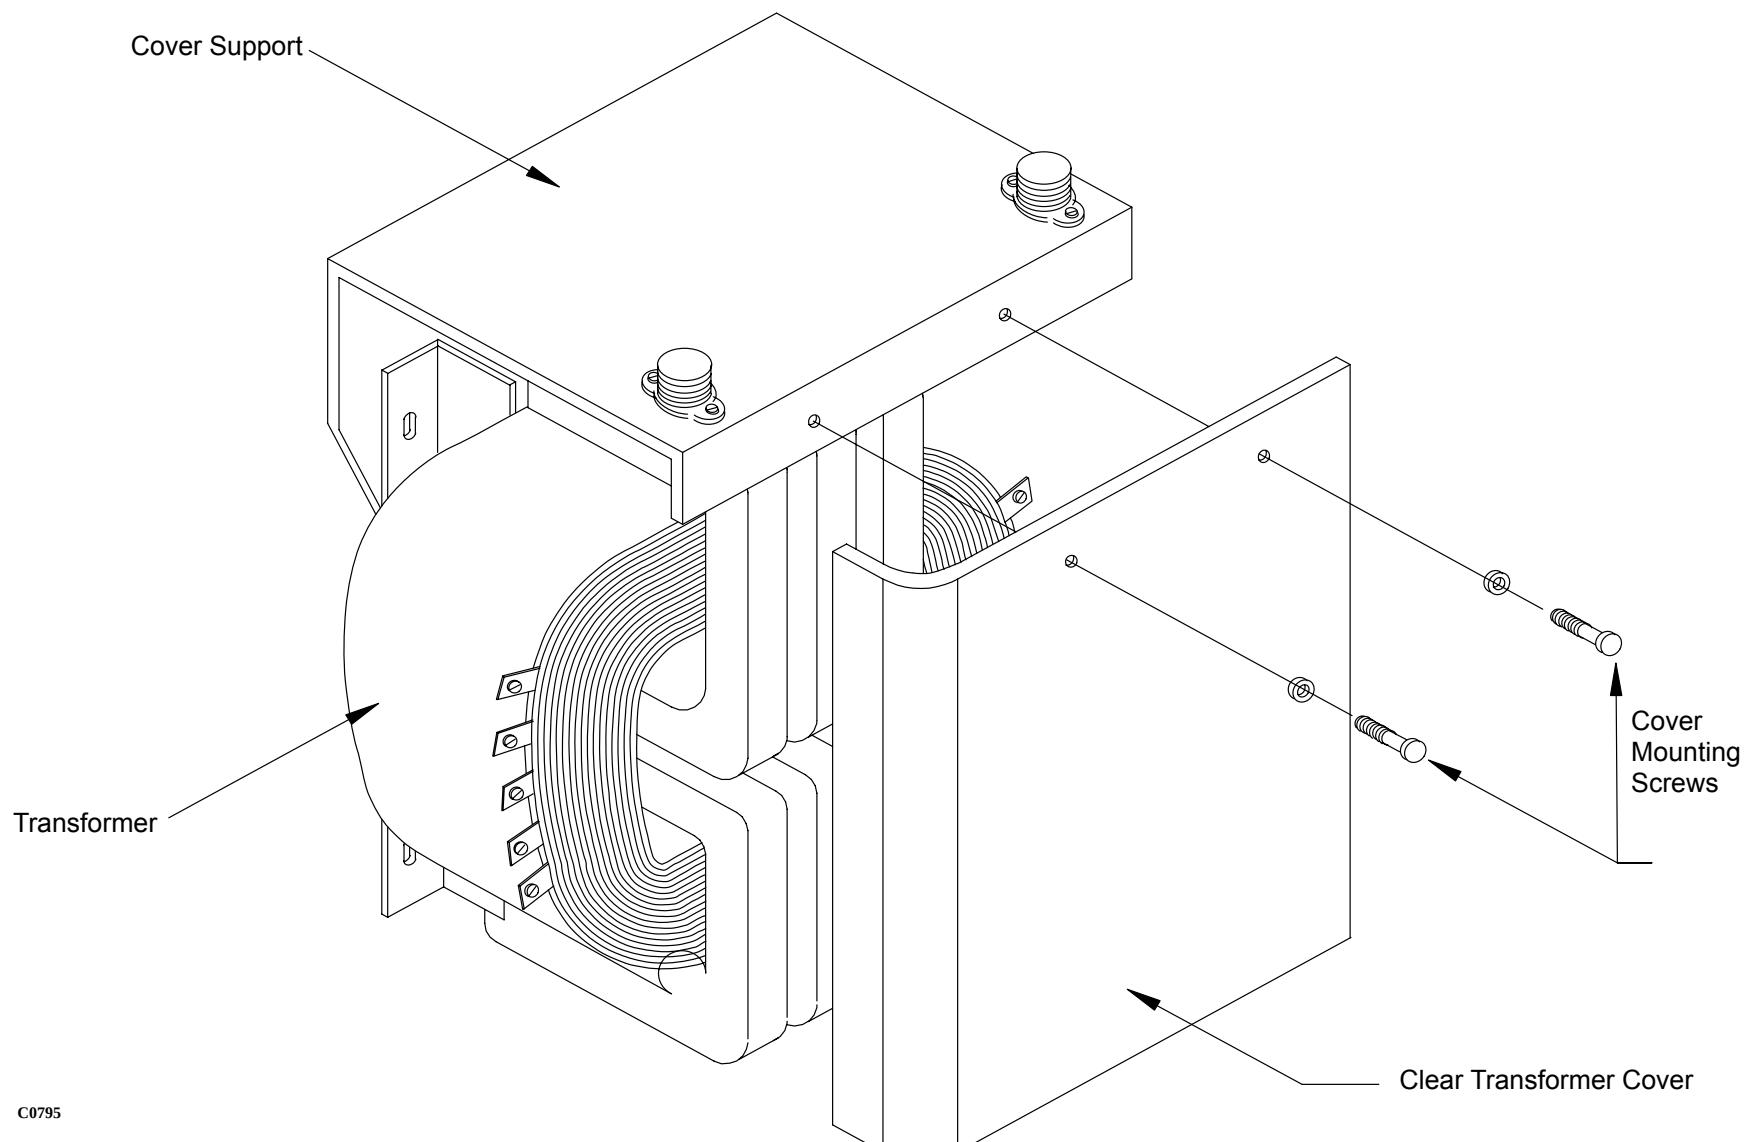

FIGURE 319 1.1 KVA Auxiliary Transformer Clear Cover
3. Remove the two transformer cover mounting screws. Remove the transformer cover. See Figure 319.